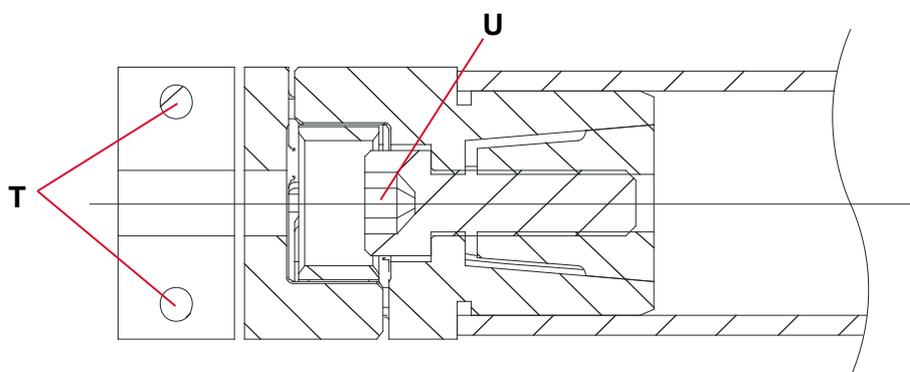

Figure 38: Cut view shaft coupling of the parallel drive
The connection shaft between master and slave axis can be removed and re-installed without disassembly of one of the two axes (see Figure 38, page 39)
- Loosen the attachment screws (T), of the shaft couplings integrated into the connection shaft (see Figure 38).
- Loosen the clamping screw (see Figure 38, U). The tension cone comes loose
- Tighten clamping screw (U) with 12 Nm
- Tighten attachment screws (see Figure 38, T) with 8.5 Nm
- Loosen the attachment screws (T), of the shaft couplings integrated into the connection shaft (see *Figure 38, page 39*).